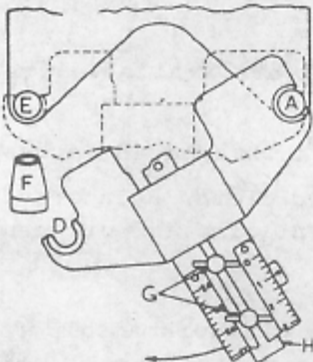

Fig. 19 - Attaching Circle Cutter to Cutawl
2. Hook the slot in the right side of the circle cutting attachment over the ball handle stud A, as shown in Figure 19.